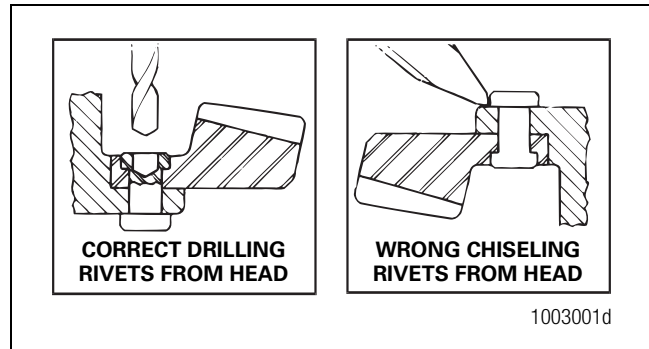

Figure 3.19
- A. Carefully center punch each rivet head in the center, on the ring gear side of the assembly. Do not use a chisel and hammer. Figure 3.19.
- B. Drill each rivet head on the ring gear side of the assembly to a depth equal to the thickness of one rivet head. Use a drill bit that is 0.03125-inch (0.79375 mm) smaller than the body diameter of the rivets. Figure 3.19.